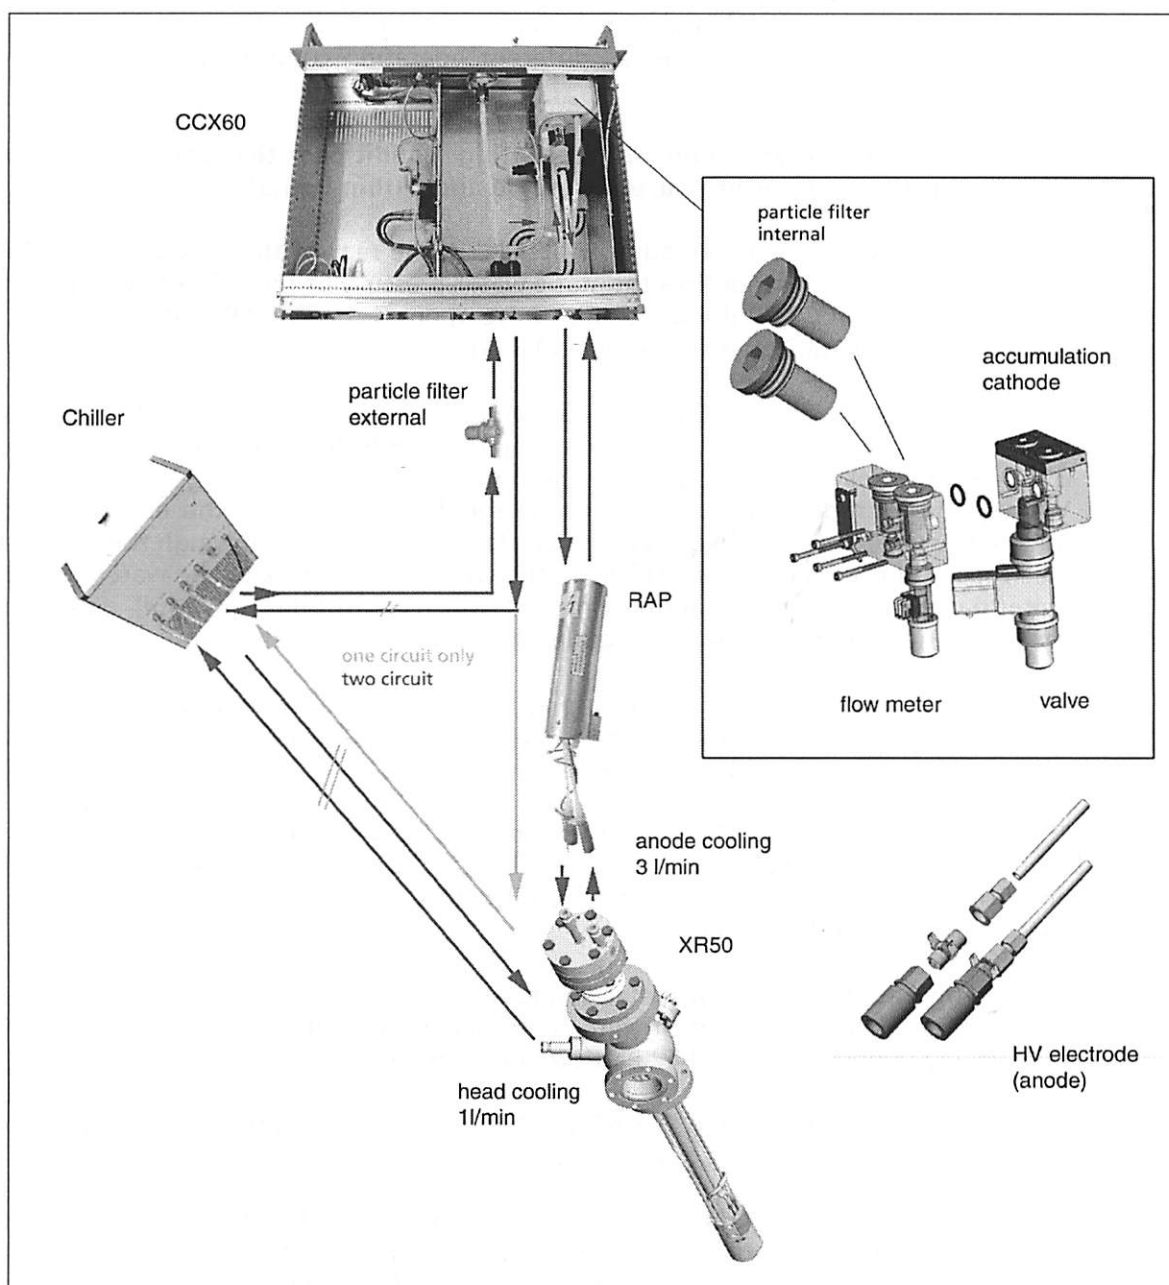
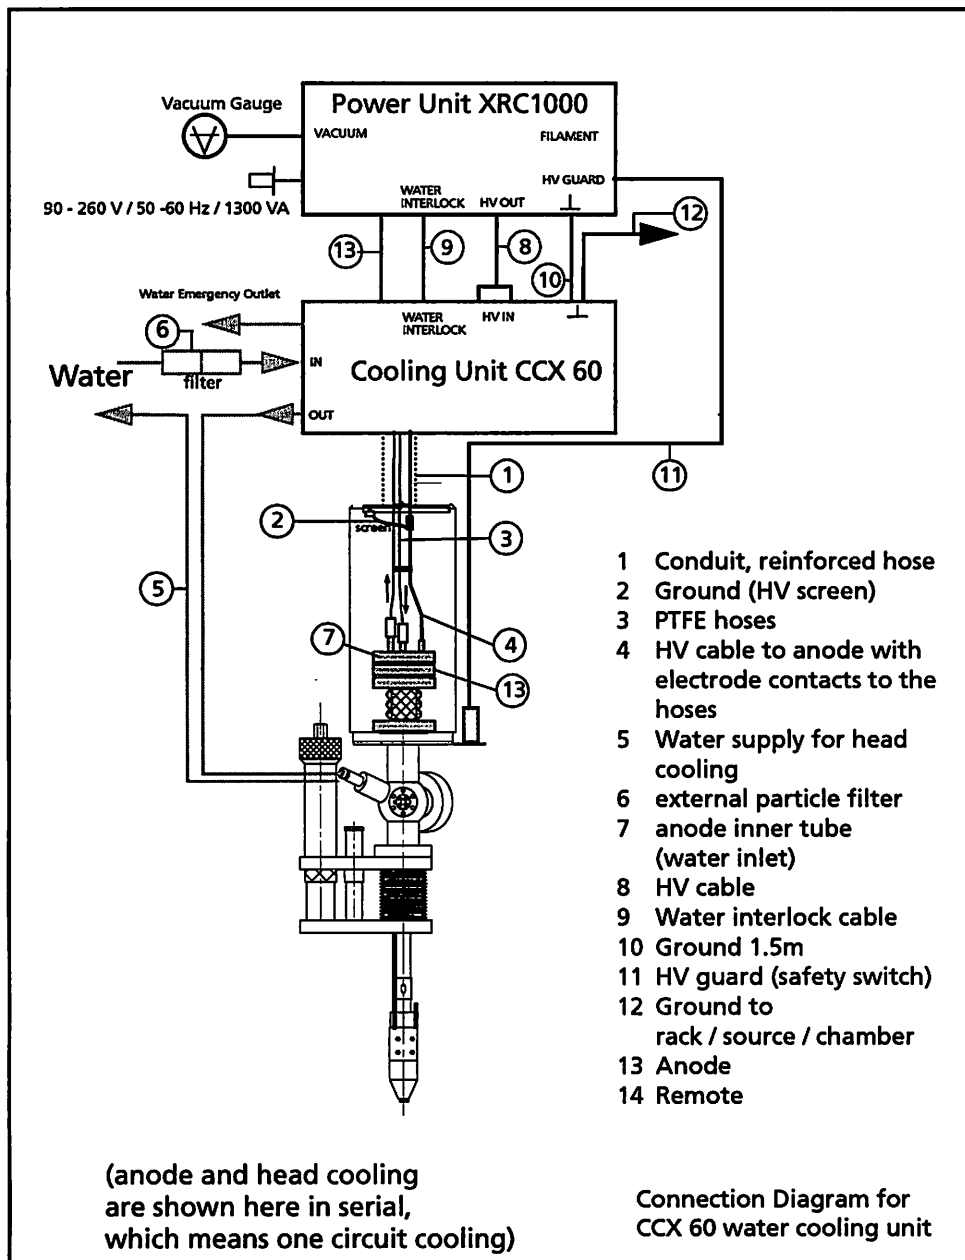

Figure 3
Figure 4 CCX 60 connections
In figure 3, "Water flow for CCX60 - water chiller - XR50" on page 7 or in figure 4, "CCX 60 connections" on page 9, the arrangement of the water-cooling box CCX 60 and the water pipes can be seen.
After leaving the outlet of the CCX 60 (marked as Source Head) the water flow can pass in serial to the cooling jacket of the X-ray source head (see figure 4, page 9).
If a second water line exists (with a flow rate in the range of turbo pump cooling), the second line should be used for head cooling (figure 3, page 7). The water flow returns to the water chiller or the closed circulation system or (in case of tap water) to the final outlet.
Higher temperatures result in overload, i.e. an evaporation of the anode material or in the worst case a cracked anode with water injection into the vacuum chamber. Normally the anode cooling and the outer jacket cooling will be performed serially (see figure 4, "CCX 60 connections" on page 9). However, if conditions do not allow a flow rate of 3.0 - 3.5 l/min, separate or cooling of the outer jacket in parallel is possible. About 1.0 l/min in this line is sufficient to maintain the specified temperature at the source head.
5. A) Connect the anode water outlet at the rear panel of the CCX 60 to one of the water connectors of the XR-50 main housing. The other water connector at the source body should be connected to the reflux flange of the closed circulation system or the water outlet (Please refer to figure 3, page 7 and figure 4, page 9).